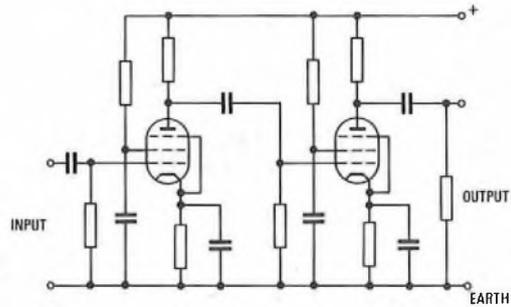

Fig. 1
**Q. 9.** (a) Fig. 1 shows the circuit diagram of a class-A audio-frequency amplifier. Redraw the circuit with additional components to provide overall voltage negative feedback over the 2 stages.